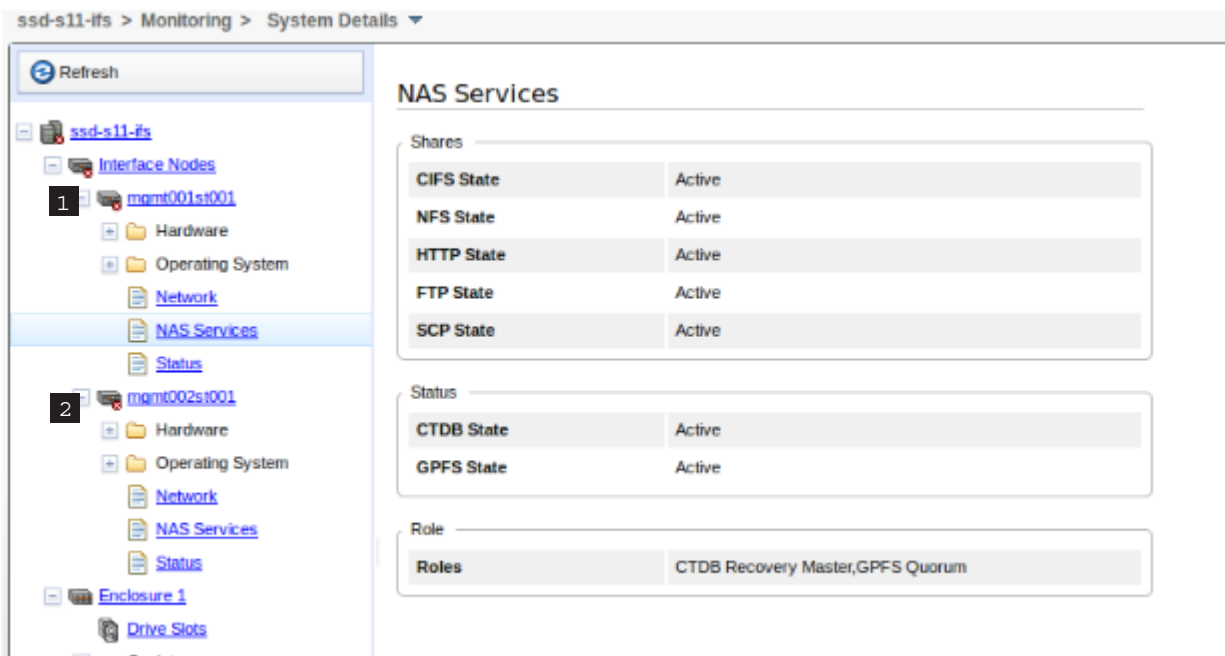

Figure 49. Management GUI showing CTDB status for both file modules
- Review the status of both file modules, **1** mgmt001st001 and **2** mgmt002st001, as shown in Figure 49.